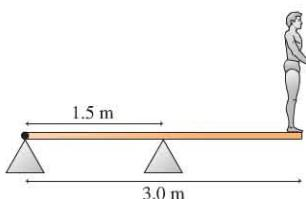

FIGURE P8.9
9. **III** A 60 kg diver stands at the end of a 30 kg spring-board, as shown in Figure P8.9. The board is attached to a hinge at the left end but simply rests on the right support. What is the magnitude of the vertical force exerted by the hinge on the board?